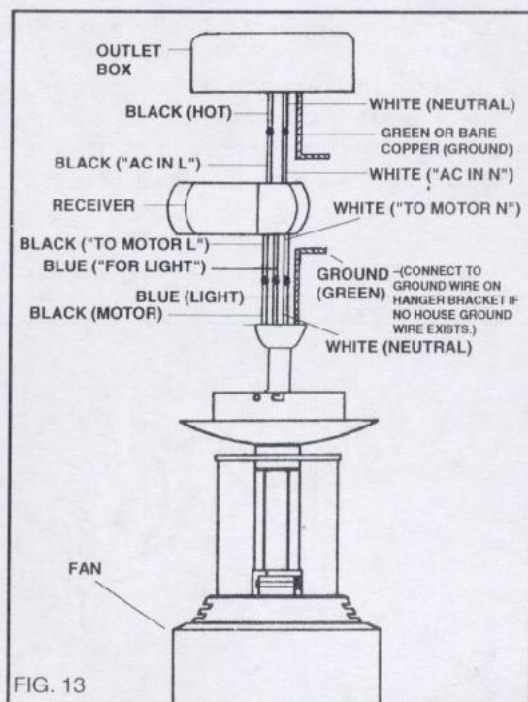

FIG. 13
**Step 2.** (Fig. 13 & 14). Motor to Receiver Electrical Connections: Connect the Black wire from the fan to the Black wire marked "To Motor L". Connect the White wire from the fan to the White wire marked "To Motor N" from the receiver. Connect the Blue wire from the fan to the Blue wire marked "For Light" from the receiver. Secure wire connections with the plastic wire nuts provided.
**Step 3.** (Fig. 13 & 14). Receiver to House Supply Wires Electrical Connections: Connect the Black (hot) wire from the ceiling to the Black wire marked "AC in L" from the Receiver. Connect the White (neutral) wire from the ceiling to the White wire marked "AC in N" from the Receiver. Secure wire connections with the plastic wire nuts provided.
**Step 4.** (Fig. 13 & 14). If your outlet has a ground wire (green or bare copper) connect it to the Hanging and Mounting Bracket ground wires; otherwise connect the Hanging Bracket ground wire to the Mounting Bracket. Secure wire connection with a plastic wire nut provided. After connecting the wires spread them apart so that the green and white wires are on one side of the outlet box and the black and blue wires are on the other side. Carefully tuck the wire connections up into the outlet box.